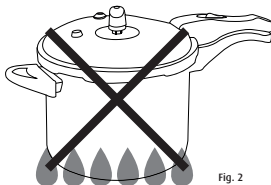

Fig. 2
- The pressure cooker should be used on a stable and firm stove. Do not place the pressure cooker on a stove that has the resistance with a diameter larger than the bottom of the pressure cooker. When cooking on a gas stove, the flame should not reach the walls of the pressure cooker (Fig. 2). The pressure cooker can be used on an electric stove, electromagnetic stove, gas stove, etc., with power less than 2 kW or its equivalents